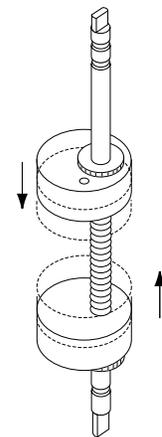

Figure 3
3. To adjust the limits, lift or depress cam against spring to disengage splines and turn cam until switch activates / deactivates as desired (Figure 3).